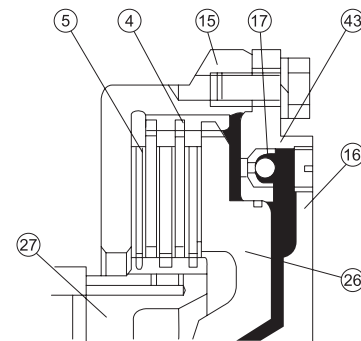

Figure 3-25
When the pressure oil from the control valve is cut off, due to the centrifugal force, the steel ball (17) moves toward the direction indicated by the arrow in Figure 3-25. In this case, the valve seat's orifice is opened, and the working oil in the back space of oil cylinder (16) is drained out through the valve seat's orifice, to ensure the normal separation of the friction disks.